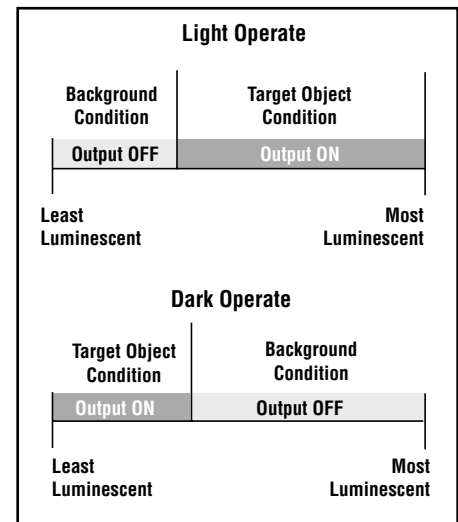

Figure 3. Fine-Detection Programming
**Light Operate:** detects a target that is more luminescent than the background. Sensing the more luminescent target will close the normally-open output, turn on the yellow LED, and cause the output to conduct current (see Figure 3).
**Dark Operate:** detects a target that is less luminescent than the background. Sensing the less luminescent target will close the normally-open output, turn on the yellow LED, and cause the output to conduct current (see Figure 3).